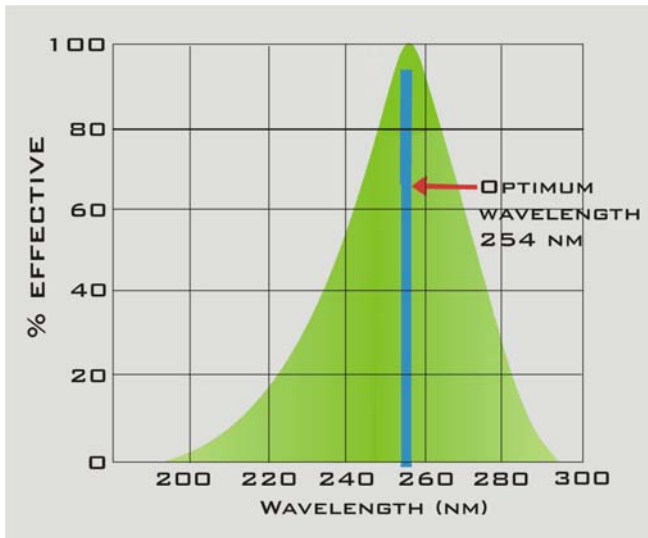

Figure 2: % Effectiveness vs. Wavelength Emitted from UV Unit
Ultraviolet (UV) light is electromagnetic radiation traveling in wavelengths in all directions from its emitting source (bulb). It is found in the spectral range of light between x-rays and visible light; UV light occurs with a wavelength ranging from 200 to 390 nanometers (nm). The most effective wavelength frequency, from the point-of-view of microbiological disinfection, is 254 nm as this is where the optimum energy intensity is found. This relationship between microbiological disinfection effectiveness and the wavelength frequency as emitted from the UV bulb is shown in Figure 2.